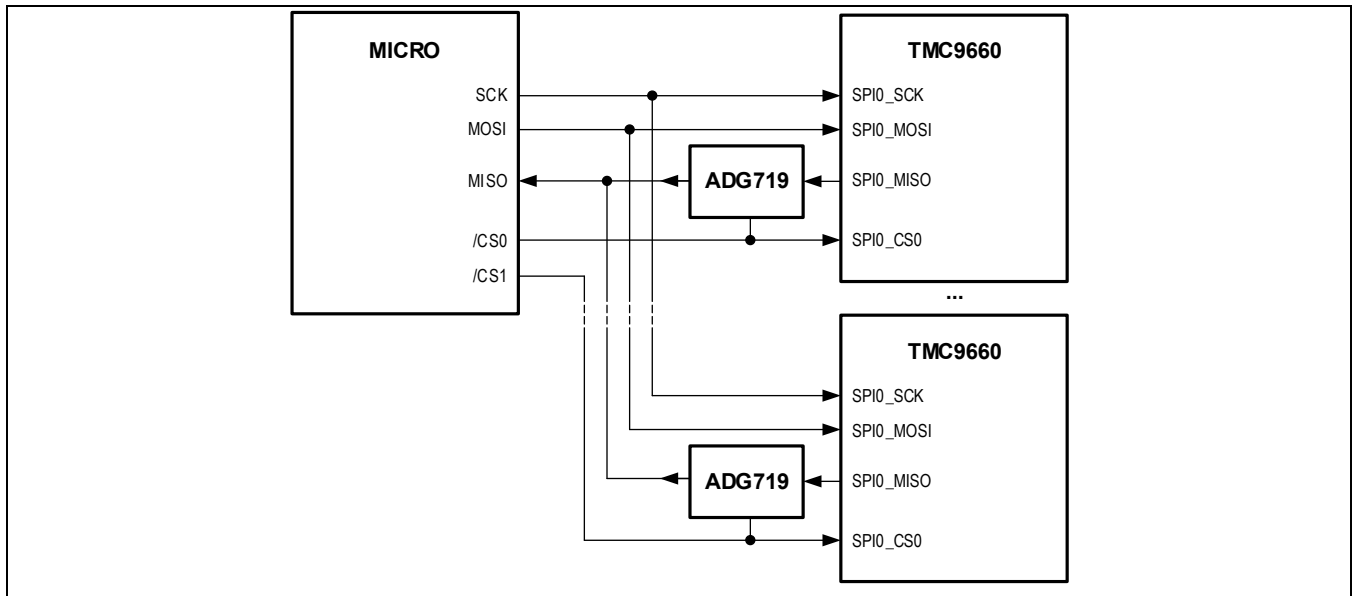

Figure 46. SPI Slave Operation, Workaround with External Component
2. Add an external component to the board design to ensure the MISO line is disconnected when the chip select signal is de-asserted. See example using an ADG719 switch in Figure 46.